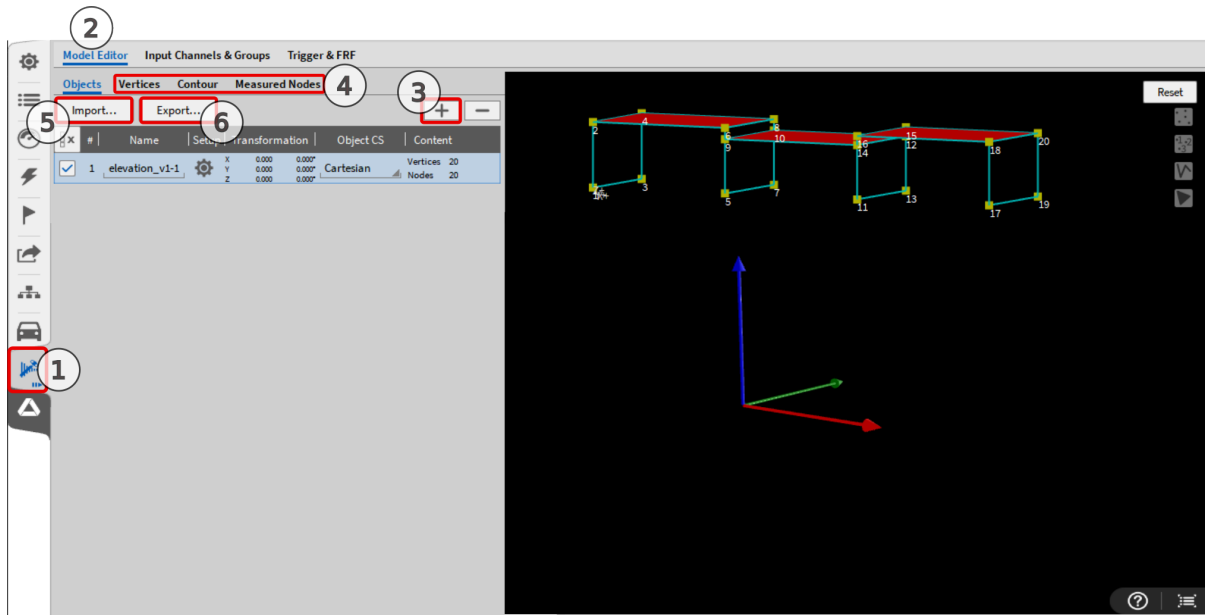

Fig. 3.9: Model Editor
To create a Modal Test, go to the channel list and use the (+) button ① on the bottom left of the channel list to add “Modal Test”, found in the “Advanced Math” category. This adds the Modal Test Channel ② in the channel list and the Modal Test tab ③ right above the OXYGEN setup tab and forwards you to the Model Editor (see Fig. 3.9).
The next page describes an alternative method, which utilizes selected channels to create a test object. In case you didn't select channels for the Modal Test setup, skip to the definition of the test object in the Modal Editor in Fig. 3.9 .